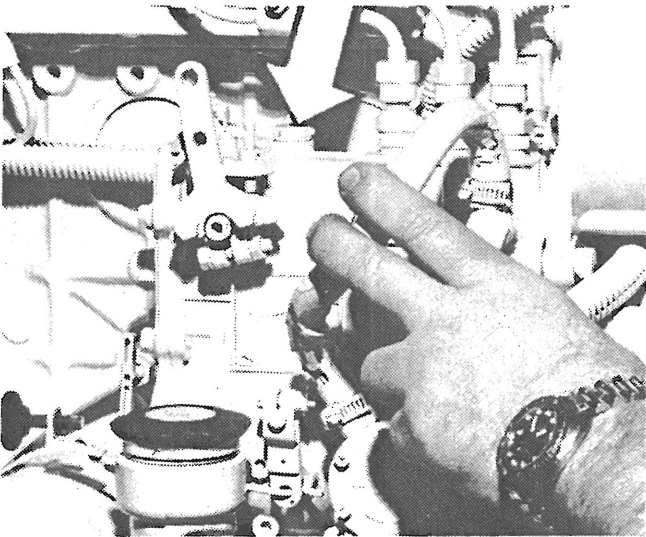

Figure 50 - Injection pump, 843 and 892
- Remove oil filler cap located on injection pump (figure 50).